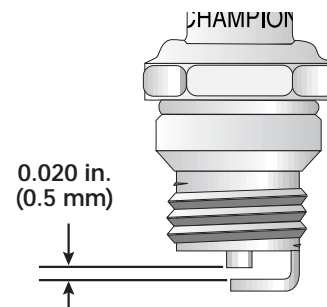

Fig. 55
3. Replace a cracked, fouled or dirty spark plug. Set the air gap at **0.020 in. (0.5 mm)** using a feeler gauge (Fig. 55).